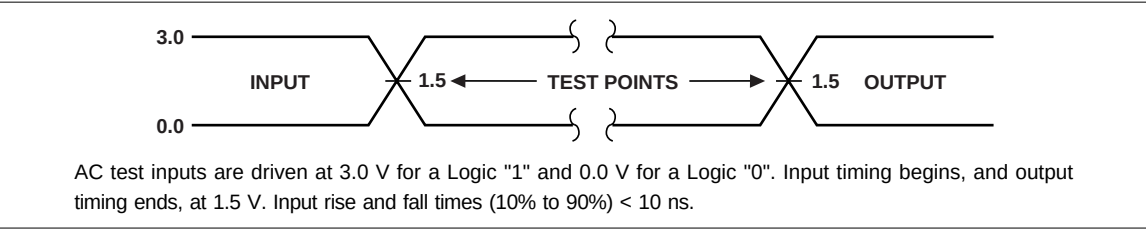
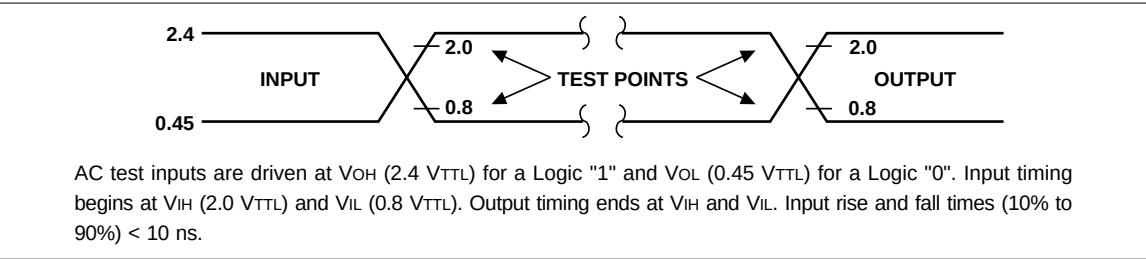
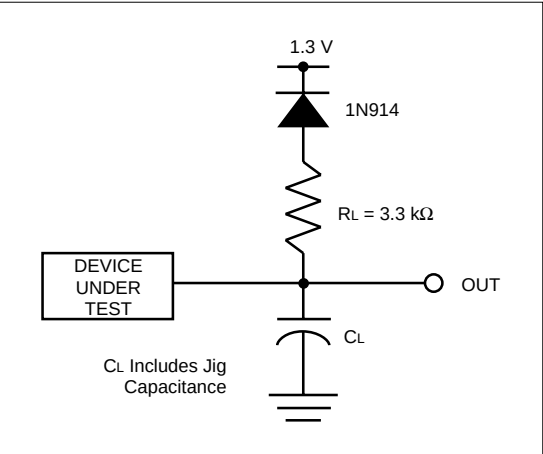

Fig. 9 Transient Input/Output Reference Waveform for V_{CC} = 5.0±0.25 V (High Speed Testing Configuration)
Fig. 10 Transient Input/Output Reference Waveform for V_{CC} = 5.0±0.5 V (Standard Testing Configuration)
Fig. 11 Transient Equivalent Testing Load Circuit
- See AC Input/Output Reference Waveform (Fig. 9 and Fig. 10) for maximum allowable input slew rate.
- See Fig. 9 "Transient Input/Output Reference Waveform" and Fig. 11 "Transient Equivalent Testing Load Circuit" (High Speed Configuration) for testing characteristics.
- See Fig. 10 "Transient Input/Output Reference Waveform" and Fig. 11 "Transient Equivalent Testing Load Circuit" (Standard Configuration) for testing characteristics.